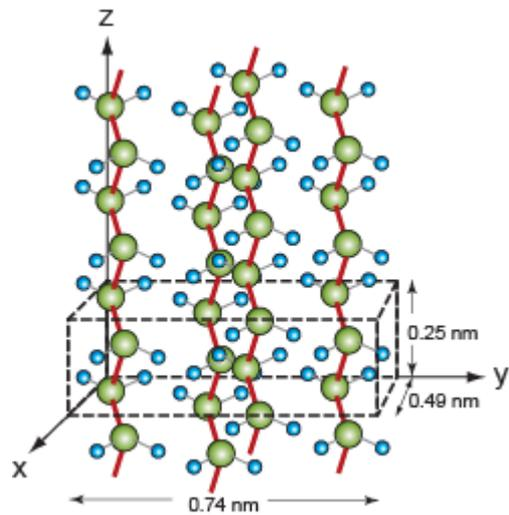

Figure C41. The structure of crystalline polyethylene.
Many polymers crystallize to some extent. The long chains line up and pack to give an ordered, repeating structure, just like any other crystal. The low symmetry of the individual molecules means that the lattice is usually *triclinic*, which just means that the three unit vectors  $\underline{a}$ ,  $\underline{b}$ , and  $\underline{c}$  are of different lengths and do not meet at 90. Figure C41 shows a typical example; it is polyethylene. The unit cell is sketched.
- E41.** Polymer crystals are very stiff and strong in the direction of molecular alignment. What are the indices of this direction in Figure C41?